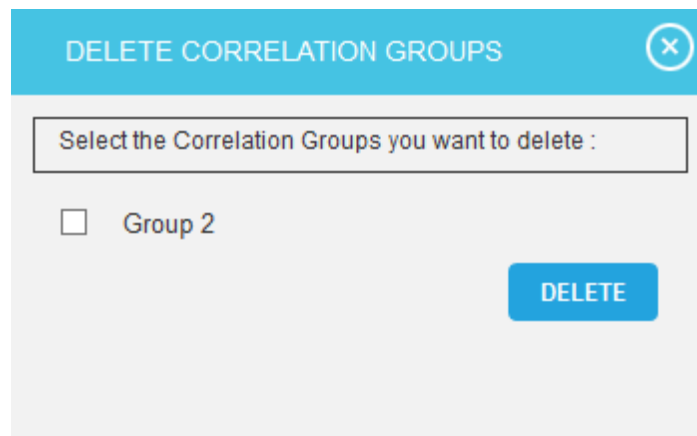

Figure 2.59
3. A pop up appears where the existing correlation groups are selected and click **DELETE** button. (Figure 2.59)